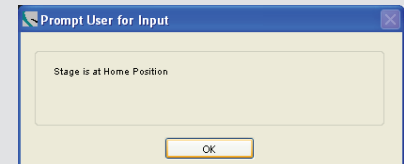

Figure 7.15 Dialog window confirming that the stage has been reset to the home position
- When the homing operation is finished the *Stage Position* will read (0, 0, 0) and a dialog window will appear confirming that the stage has been homed (Figure 7.15).